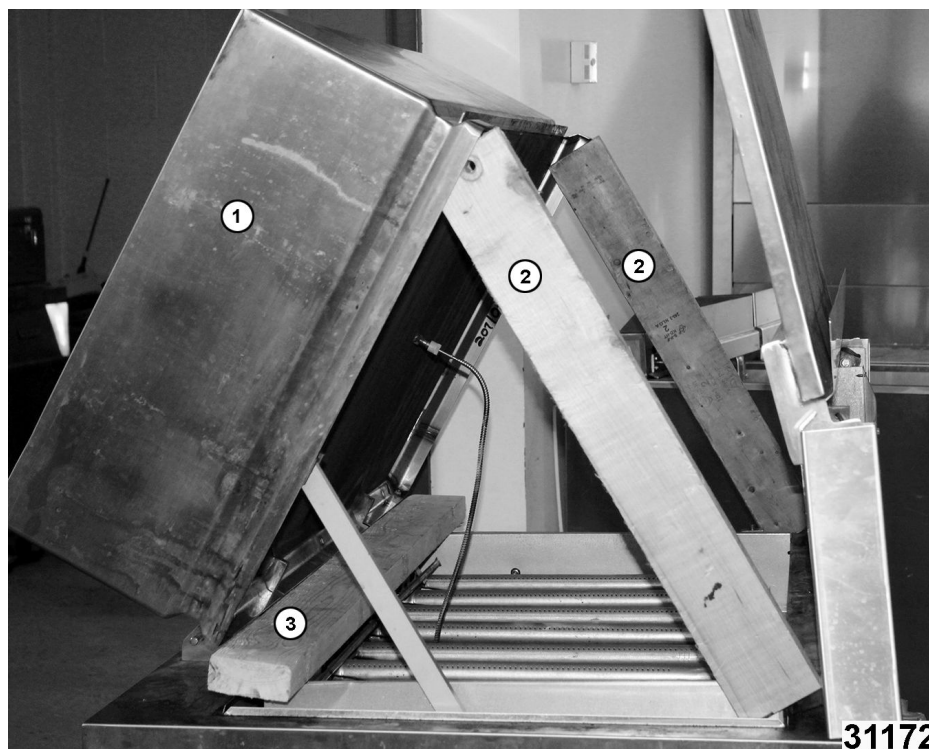

Fig. 29
- A. Block braising pan (1, Fig. 29) with two 25" long wood blocks (2" x 4") (2, Fig. 29), one at each end.
- B. Place 2"x4" wood block, 36 inches long for VG30 models, 44" for VG40 models , (3, Fig. 29) across front of braising as shown.